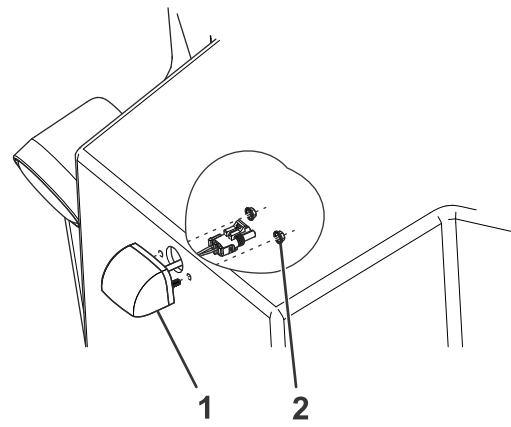

Figure 5
5. Secure the light to the rear cover using 2 nuts (Figure 5).
14. Connect the light-kit wire harness to the light kit light (Figure 5).